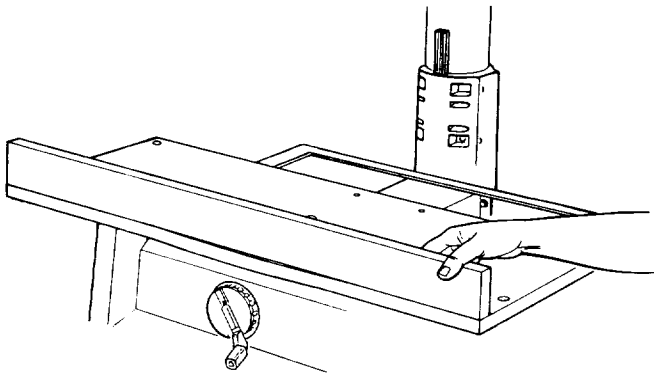

Fig. 72
9. Lay the edge of the *rear table* across the center of the *front table*, and check to see if there is a gap between the two. (Figure 72)